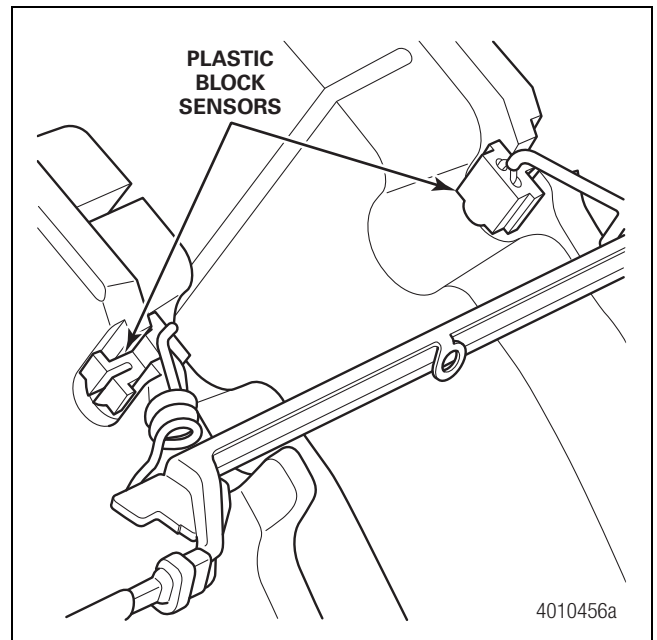

Figure 4.23
- C. Ensure the PWVI wiring is routed over the pad backplate, away from the rotor. Figure 4.23.
- A. Install the plastic blocks of the PWVI into the pads. Do not use excessive force, but ensure they are pushed to the bottom of the slot. Figure 4.23.